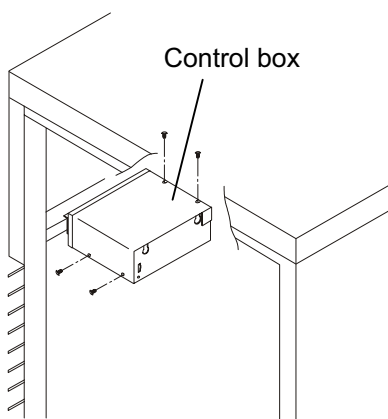

Fig. 3
3. Loosen 2 upper screws and remove 2 screws on the right, and remove the control box cover. (Fig. 3)
4. Remove 4 fixing screws on the control box to remove the control box cover. (Fig. 3)